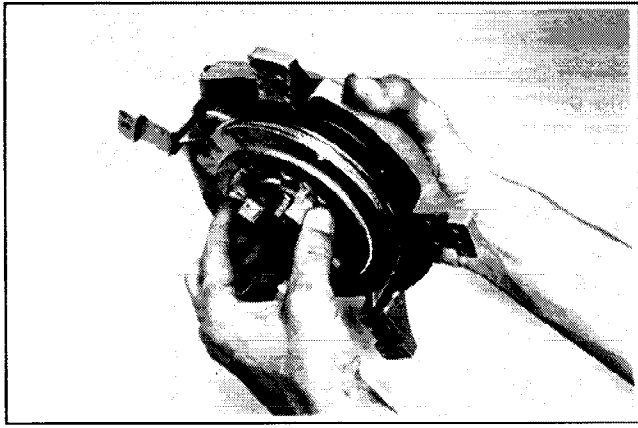

Figure 7-15. Removing Pulley From Housing.
14. Rotate the pulley slightly from side to side and **carefully** separate the pulley from the starter housing. Refer to Figure 7-15.